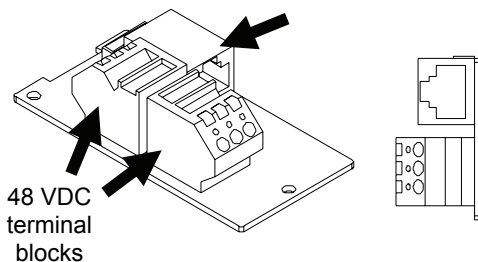

Figure 17: Tripix Cable Adapter
- Use a pair of Tripix Cable Adapters, IP66, Male + Female (P/N: 91611323 – see Figure 17) with a CAT5e data cable only (no power cable is necessary) to extend the link from the last fixture in Group 1 to the “In” connector of group 2’s Power Inserter cable.